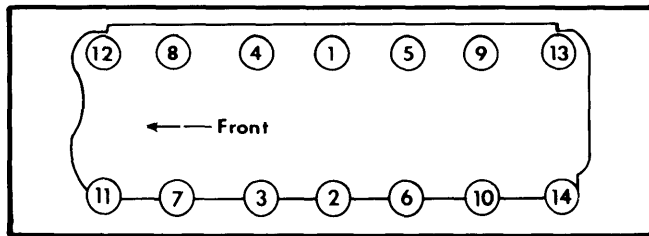

Fig. 2 Cylinder Head Tightening Sequence
3) Install cylinder head and tighten head bolts in sequence. See *Fig. 2*. Reverse removal procedure to replace all remaining components. Retightening head bolts is not necessary.